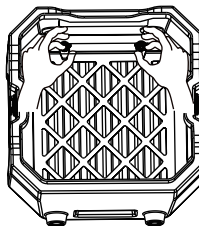

Figure 2
- 1.2 Place the air inlet of the lower shell on a apartment road, then disassemble the butterfly-shaped press block and remove the filter screen. (Figure 2)